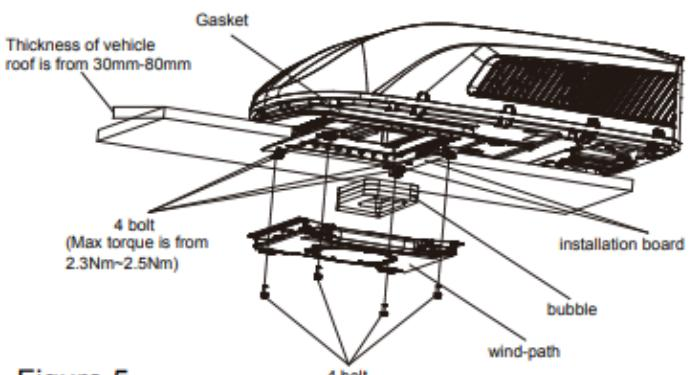

Figure 5
3. Then carry the outdoor unit to the vehicle's top and align with the openings on the vehicle's top. Use 2 sets of mounting plate assembly and 4 screw bolts to mount the outdoor unit. As for installing the mounting plate sub-assy, these 4 long bolts' holes should be aligned with the 4 holes on the adaptor respectively at first and then the upper planes on the bottom edge of two mounting plates must be overlapped with the bottom surface of vehicle roof. (See Figure 5).
6. Install the foam assembly on the air duct assembly. Use 4 screw bolts to fix the air duct assembly onto the mounting plate. After connecting the outdoor unit with indoor unit, check whether the foam assembly has come loose (See Figure 5).